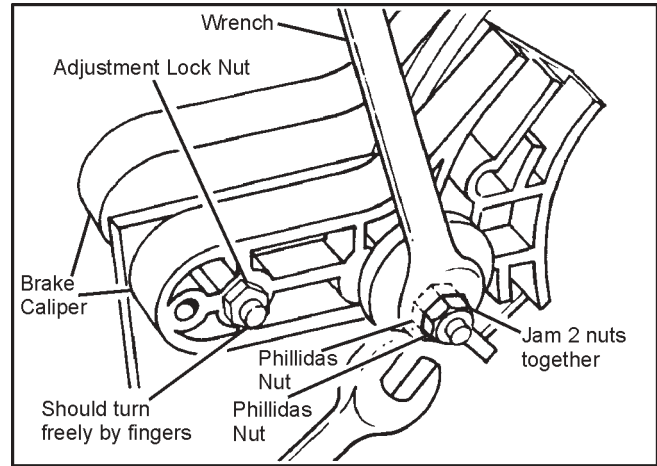
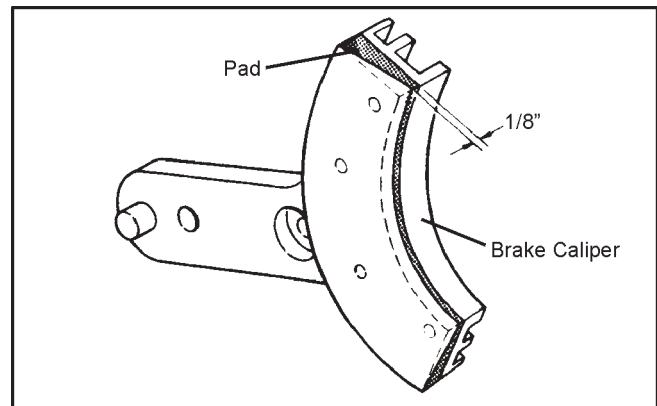

Figure 7-21. Tightening the lock nut
Figure 7-22. Measuring the distance between the brake disc and brake pad.
1. Tighten the lock nut with a 1/2" open end wrench, no wider than the thickness of the lock nut (Figure 7-21). As the lock nut is tightened, measure the clearance between the brake disc and pad as shown in Figure 7-22, using a .010" feeler gauge. .010" is the correct clearance between the left brake pad and the brake disc when the right pad is pressed against the disc.
- worn to 3 mm (1/8") thickness as shown in Figure 7-22;